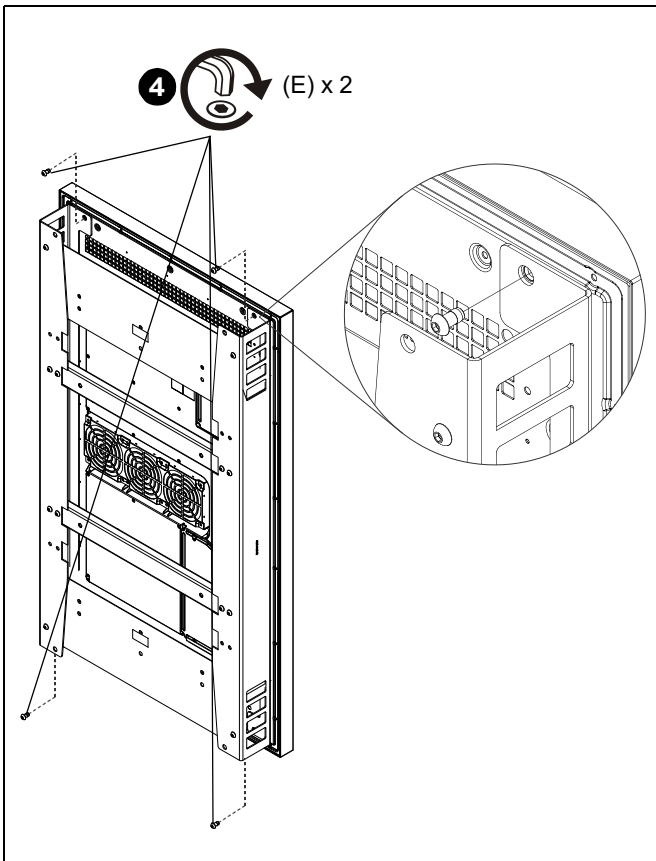

Figure 4
- Attach side plates (A) to back of display using four M8 x 16mm hex head cap screws (G). (See Figure 4)